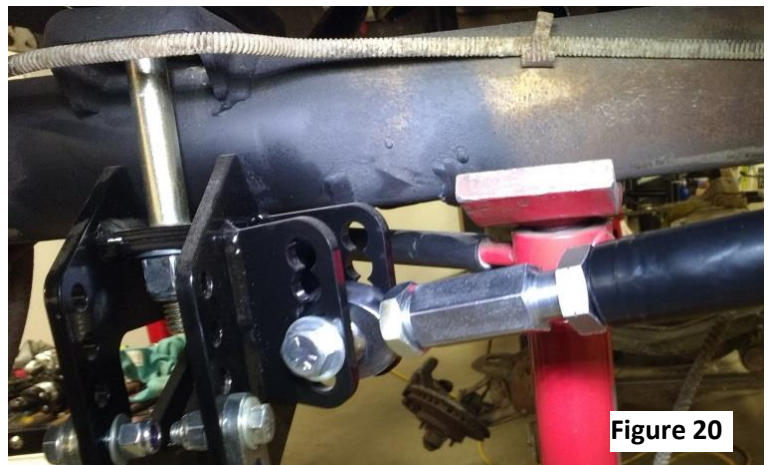

Figure 20
6. Install the panhard bar on the axle bracket using the 5/8" x 3" bolt, washers and nut. A SG108 spacer will be used on each side of the rod end. Adjust the length of the panhard bar until the bolt holes line up by holding the rod end and turning adjuster to ensure equal thread engagement on the rod end and adjuster when adjusting the length. **Note:** The panhard bar height will need to be adjusted once the truck is set at ride height. **Figure 20**